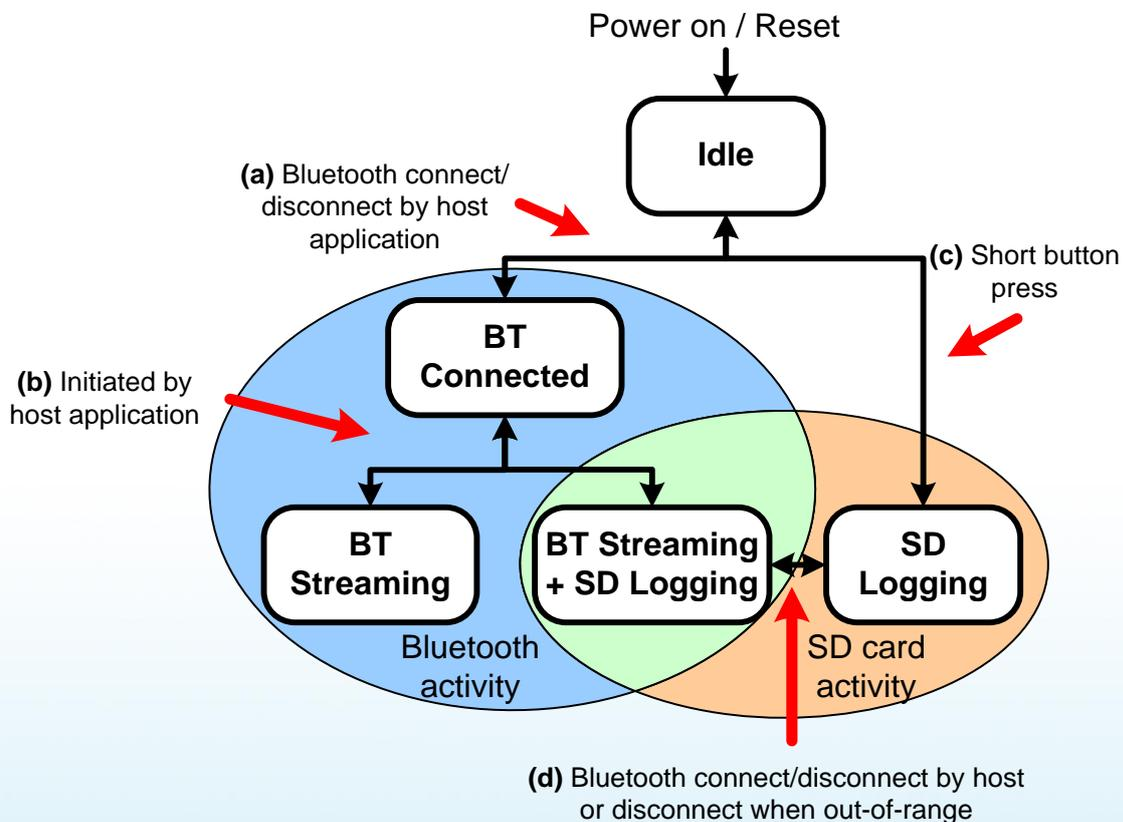

Figure 6-1 LogAndStream firmware operational hierarchy.
A *Shimmer3* programmed with *LogAndStream* firmware can be in one of five states: *Idle*, *BT Connected*, *BT Streaming*, *BT Streaming + SD Logging* or *SD Logging* - as shown in Figure 6-1. The active states form two operational branches from which the user can choose to operate the *Shimmer3* device - one initiated by a Bluetooth connection (blue shaded area in Figure 6-1) and the other based on SD Logging operation (orange shaded area in Figure 6-1).
The key feature of the *LogAndStream* firmware can be viewed at the intersection of the two active branches (green shaded area in Figure 6-1). From a "host" application, the user can select to stream *Shimmer3* sensor data over a Bluetooth connection at the same time as saving it locally to the on-board microSD card. An instance where this is of key benefit is the case where, in the process of data collection, a *Shimmer3* might travel out of range from the "host" device. In this circumstance, the *Shimmer3* will continue to save data to the microSD card such that there will be no break in the data recording. Similarly, during normal SD logging operation, continuous Bluetooth streaming is not
The 'paths' referred to below are indicated in Figure 6-1.
- ii. In the event of either a Bluetooth disconnection, the serial port being closed or the *Shimmer3* travelling out of range for a certain period (≈ 150 s), the *Shimmer3* will automatically enter the *SD Logging* state (as illustrated by "Path (d)" in Figure 6-1).